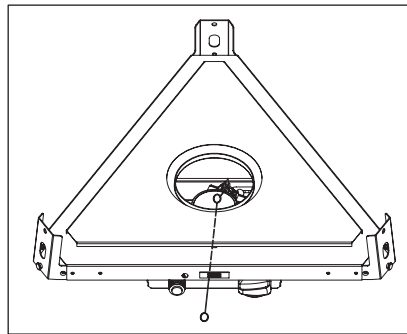

Figure 3
- As you are depressing the control knob, attach match (not included) to the long stem lighter assembly (MM) and place it through the hole on the control panel to light the pilot (Figure 3).